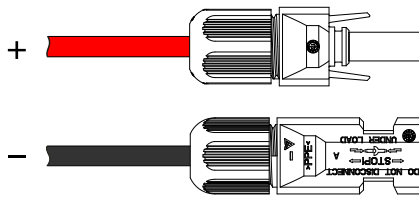

Figure3-38 Tighten the lock nut
Step 4 Tighten the locking nuts of the positive and negative connectors to corresponding insulating shells, as shown in Figure3-38.